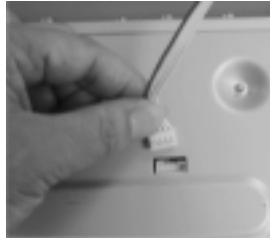

figure 3
3) Insert the plug of PCB into bottom of the main unit as shown in figure 3.